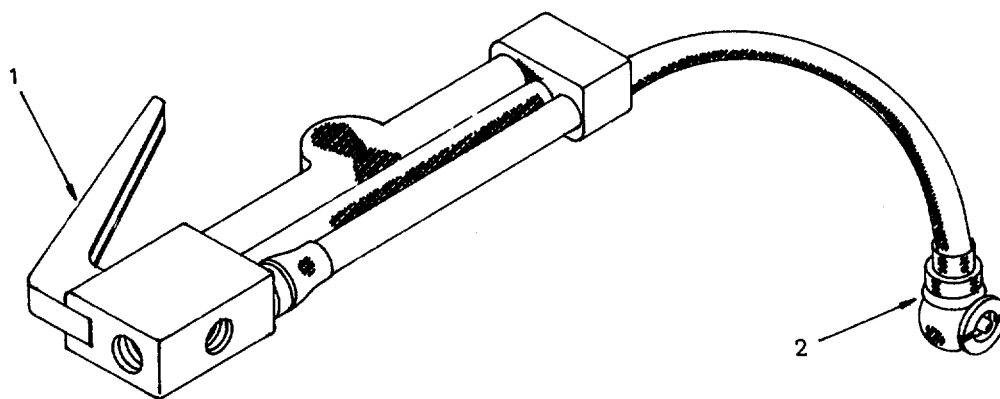

Figure 2-18. Tire Inflator-Gage.
- d. Tire inflator-gage is attached to other end of nonmetallic hose and is used to inflate or deflate pneumatic tire pressure. To inflate, press lever fully (1, Figure 2-18). To deflate, lift chuck (2) half way. To check pressure, release lever (1).